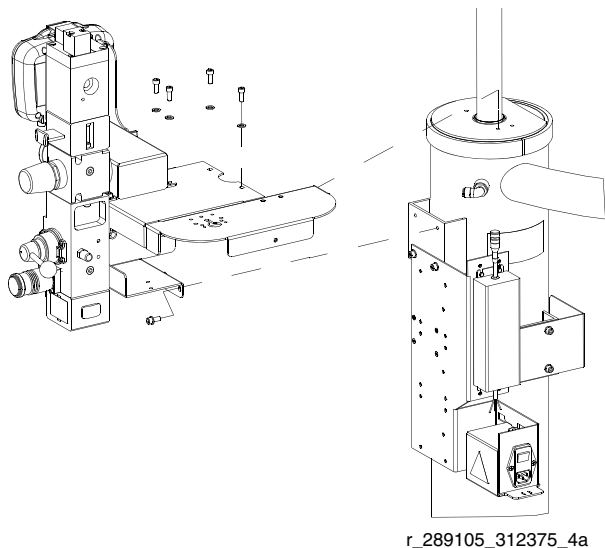

FIG. 4
If you are not replacing the manifold (1), you may prefer to remove the bracket from the ram and leave it attached to the integrated air controls because the screws are easier to reach. See FIG. 4.